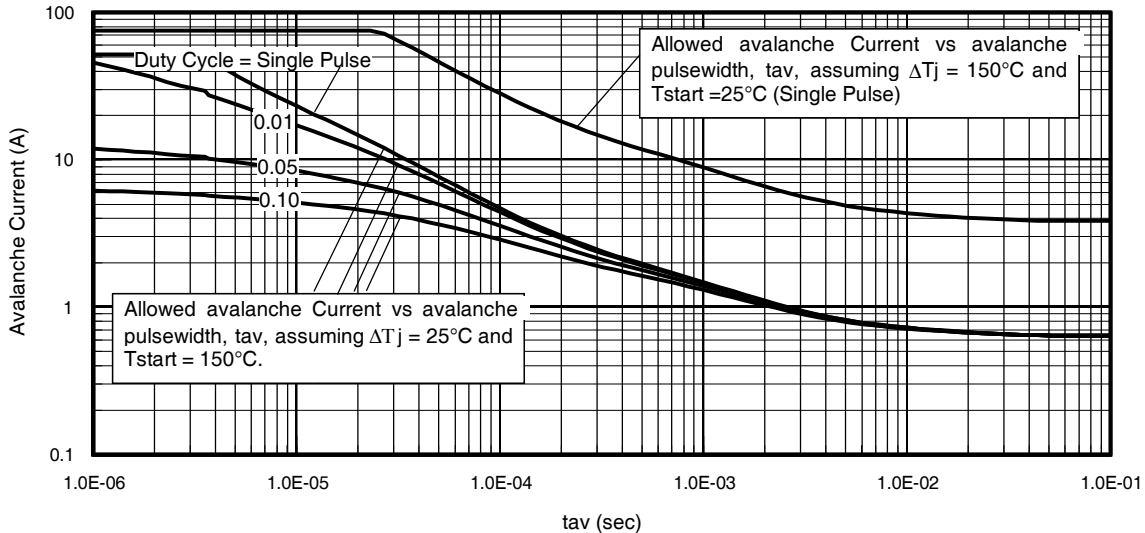

Fig 14. Typical Avalanche Current vs. Pulsewidth
Notes on Repetitive Avalanche Curves , Figures 14, 15:
7. ΔT = Allowable rise in junction temperature, not to exceed T_{jmax} (assumed as 25°C in Figure 14).